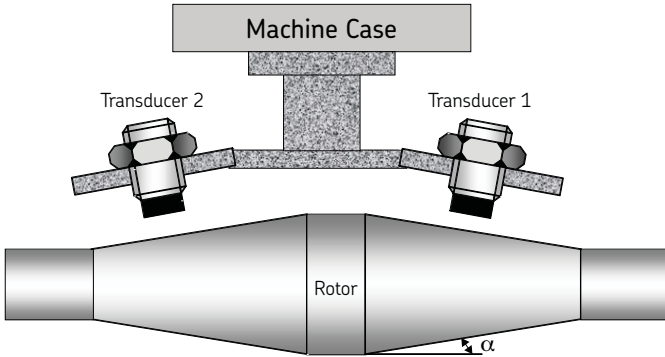
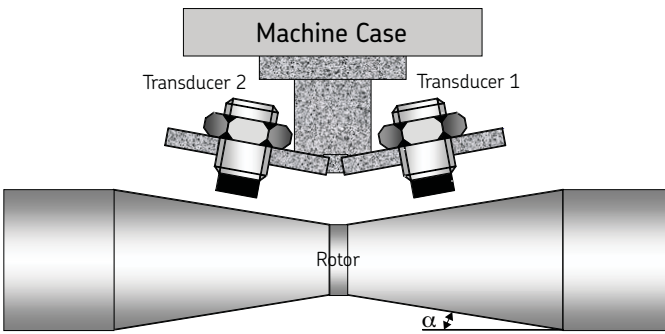

Figure 1
Figure 2
In **Figure 1** and **Figure 2**, the ramp differential expansion measurement uses two sensors viewing a concave or convex ramp integral to the rotor assembly. The amount of differential expansion capable of being measured is based upon the angle of the target ramp and the linear range of the sensor making the measurement.
**Figure 1** and **Figure 2** represent what is called dual ramp differential expansion, which uses two transducers, both which measure radial and axial movement of the shaft.